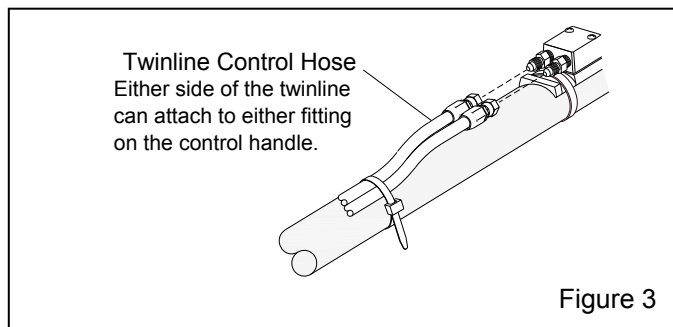

Figure 3
**2.2.1.1** Attach the 50-foot twinline hose to the two fittings on the control handle, as shown in Figure 3. Either side of the hose can be attached to either fitting.